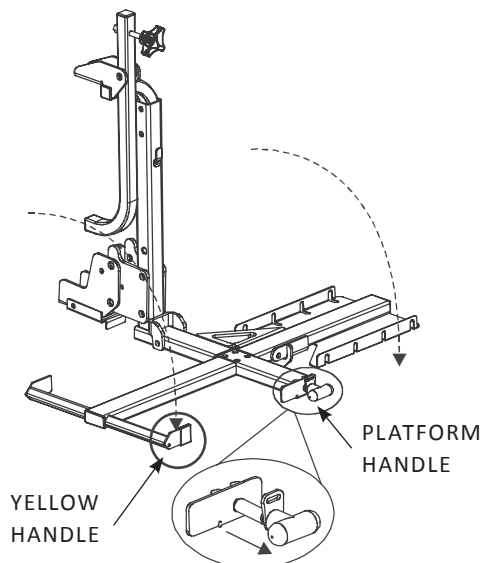

Figure 4-6
2. Lower the platform with the yellow handle while continuing to pull on the platform handle. *See Figure 4-6.*